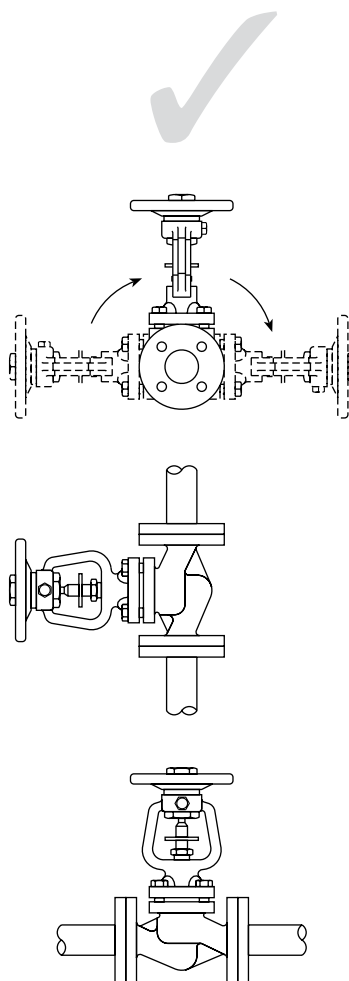

Fig. 7 **Incorrect installation**
- 3.3** Install the valve in the direction of flow given by the arrow on the body. The preferred position is with the spindle vertical. The valve can be installed from the vertical to the horizontal plane (see Figure 7, page 15).